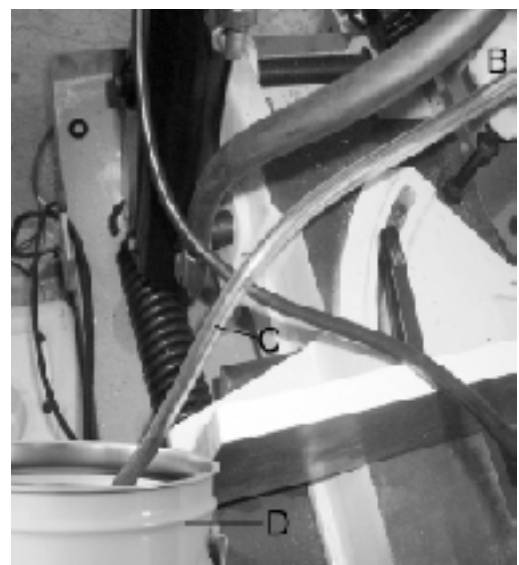
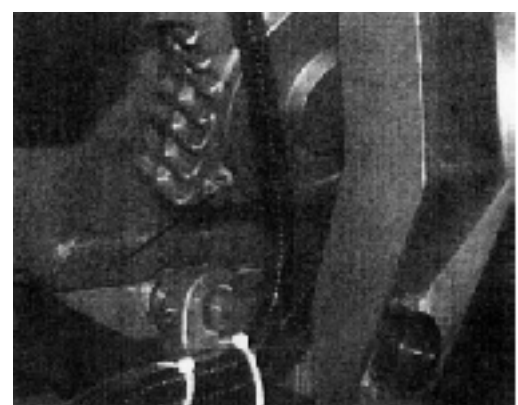

**Fig.22**
**Fig.23**
2. Remove plug (A) Fig.22 from the top of the hydraulic system and replace with a suitable hose fitting (B) Fig.23. connect a clear hose (C) to the fitting, as shown.
3. Put approximately one quart of Mobil-DTE (light) oil, available in one-quart of cans into a container (D) Fig.23 place hose (C) in the container (D) making sure end of hose is submerged in the oil, raise and lower saw arm until the bubbles disappear from inside the clear hose (C).
4. Remove hose fitting (B) Fig.23 and replace plug (A) Fig.22.